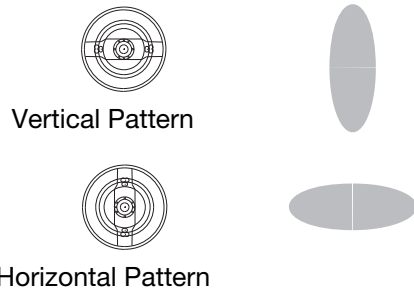

FIG. 19. Air Cap Positions
3. Loosen the air cap retaining ring, and rotate the air cap for a vertical or horizontal spray pattern. See FIG. 19.